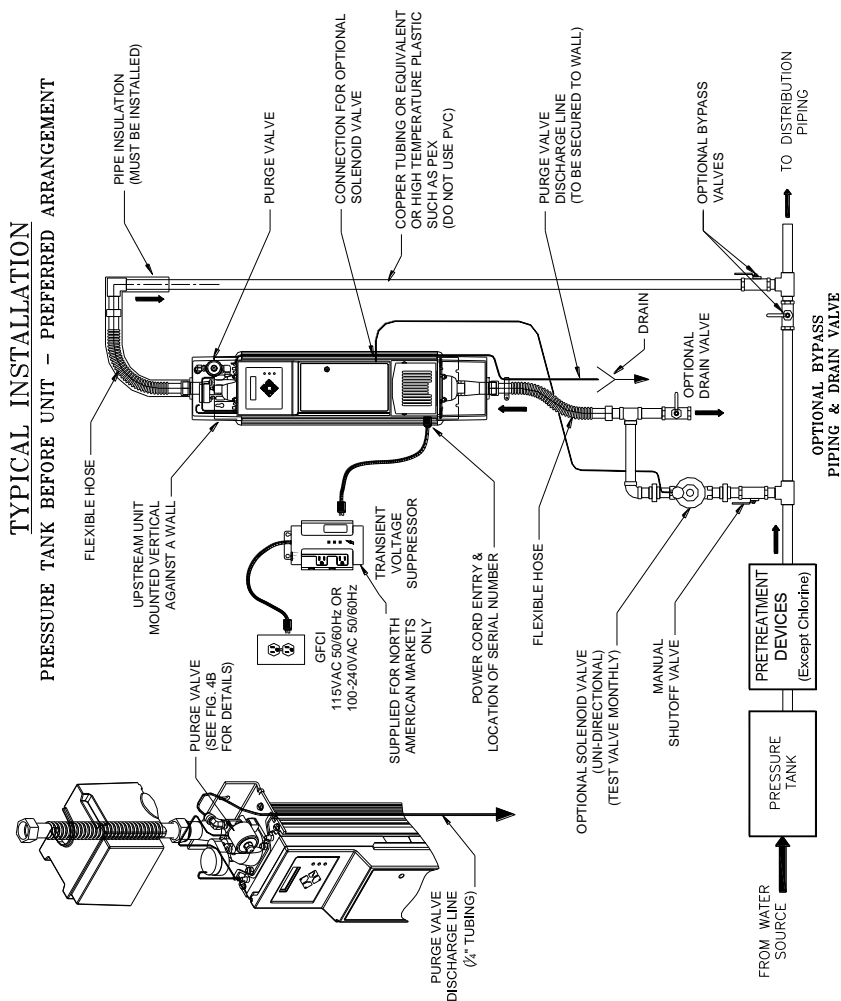

Figure 1B
It also requires male NPT fittings for the hose connections and also for the optional solenoid valve (1" or 1.5"). The Upstream unit requires a drain for purge valve discharge line. These fittings, pipe insulation, and any piping compatible with the plumbing should be on hand before you begin installation. See Figure 1B and make a list of all necessary components including solder, paste and thread sealant. Bypass piping and valves that isolate the unit are optional, (but recommended) as is a drain valve for draining the unit.
**Step 2:** If you have decided to install an optional bypass line and drain, you may begin to install these fittings at this point. See Figure 1B or 1C for more information on how to connect optional bypass piping and drain.
**Step 2:** Plug the female end of the power cord into the power entry module located on the left side of the front panel. The power cord must be removed before front panel can be opened. See Figure 1B or 1C. Plug the male end of the power cord into the Transient Voltage Surge Suppressor supplied. Plug the Transient Voltage Surge Suppressor into a GFCI. Flip the switch on the Transient Voltage Surge Suppressor to ON position.